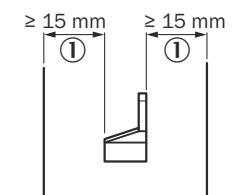
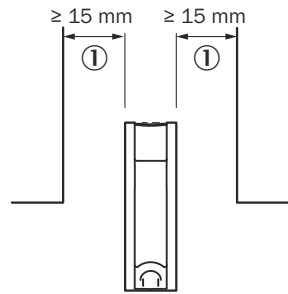

Figure 22: Minimum distance between position magnets and parts made of magnetizable material
Figure 23: Minimum distance between position magnets and parts made of magnetizable material
- ▶ The distance ① between the position magnet and parts made of magnetizable material must be at least 15 mm (see figure 22, page 25 and see figure 23, page 26).